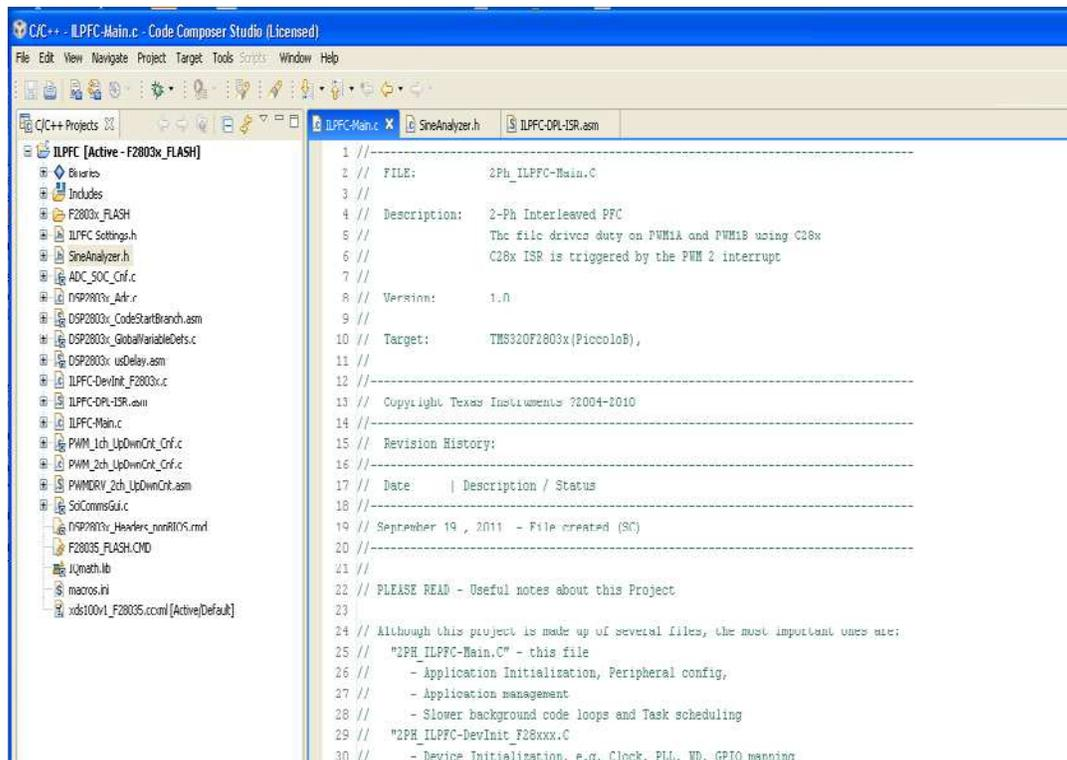

图 9. CCS Project Window
3. In the project window on the left, click the plus sign (+) to the left of Project. Your project window will look like the following in 图 9: